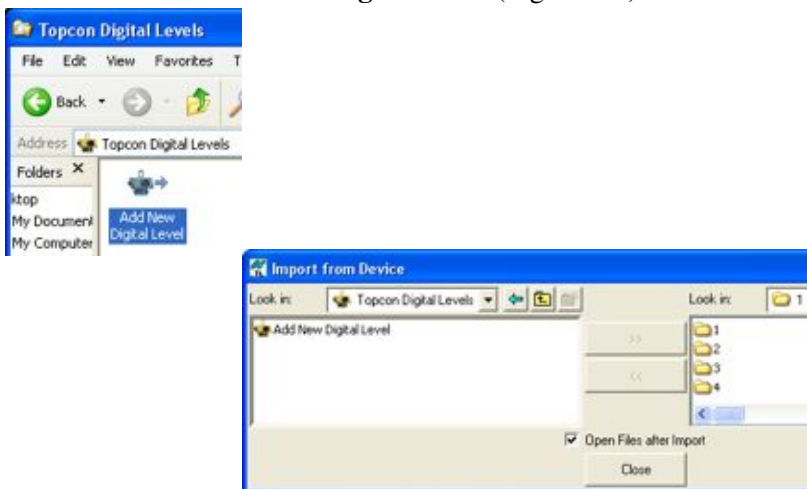

Figure 2-7. Add a New Topcon Digital Level
1. Navigate to the **Topcon Digital Level** directory (Figure 2-7).
2. Double-click **Add New Digital Level** (Figure 2-7).
1. Navigate to the **Sokkia Digital Level** directory (Figure 2-7).